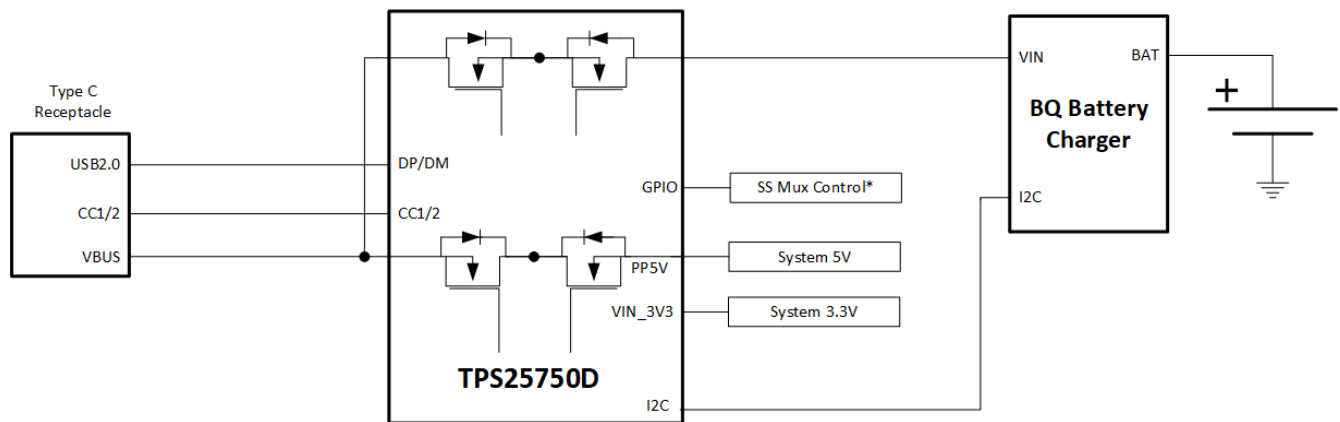

Figure 10-6. Power Only Battery Charger Application Block Diagram
Figure 10-6 shows the system block diagram for TPS25750D connected to a supported Battery Charger (BQ).